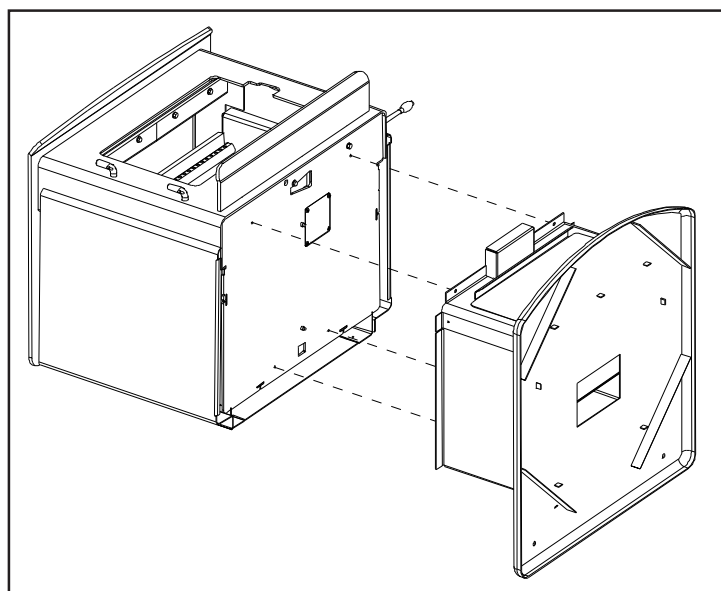

**Figure 13:** Bolts to remove.
- Remove the two (2) carriage bolts (shown in Figure 13) that secure the unit to the pallet from inside the firebox.
**Note:** After the pedestal or legs and ash pan have been installed but before the bricks are installed, rivets (Figure 12) must be placed in the two (2) holes (shown in Figure 13) in the firebox that carriage bolts came out of. This is done to make unit burn more efficiently. The shoulder rivets are found in the manual bag.